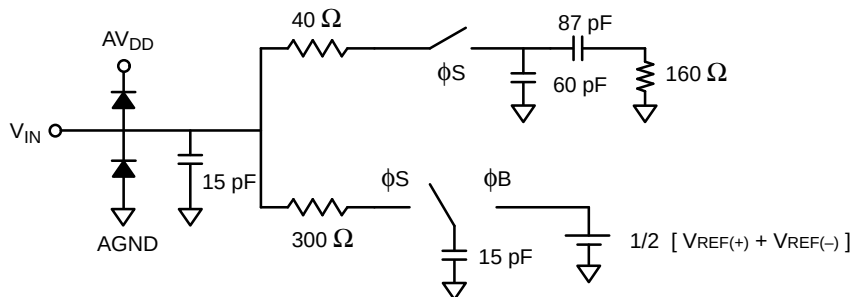

Figure 5. Analog Input Equivalent Circuit
- ⁶ See V_{IN} input equivalent circuit (*Figure 5*). Switched capacitor analog input requires driver with low output resistance.